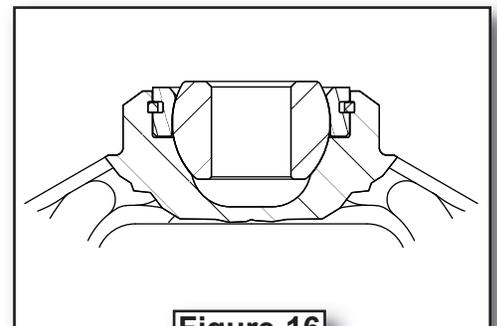

Figure 16
14. Wrap a shop cloth around the shaft to protect the splines. Clamp the shaft in the vise so the shaft yoke is up. The ball in the shaft yoke has a flat area around each end of the hole. The flat area is wider on one side of the ball (see Figure 16). Rotate the ball so the wider flat area is up.